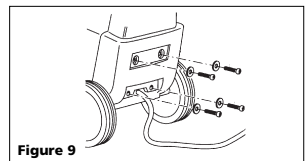

Figure 9
10. Attach black handle with enclosed screws and washers (Figure 9).